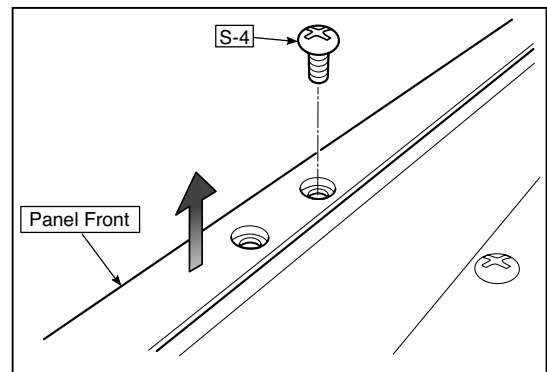

Fig.23
### 10) Remove the Panel Upper. (See Fig. 23)
1. Remove the "S-4" screws shown in the figure 23 and then remove the Panel Front.